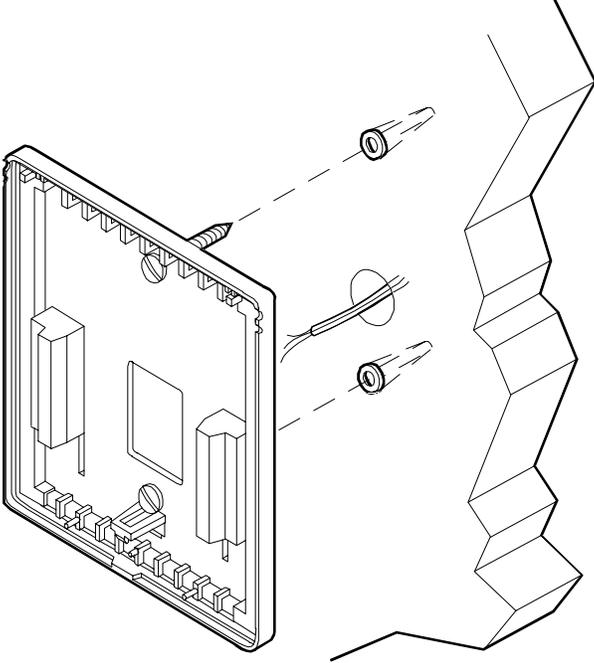

Figure 4: Mounting the Base
3. Use the supplied anchors and screws for mounting on drywall or plaster. Drill two 4.7 mm (3/16 in.) holes at the marked locations, tap nylon anchors flush to wall surface, and fasten. (See Figure 4.)